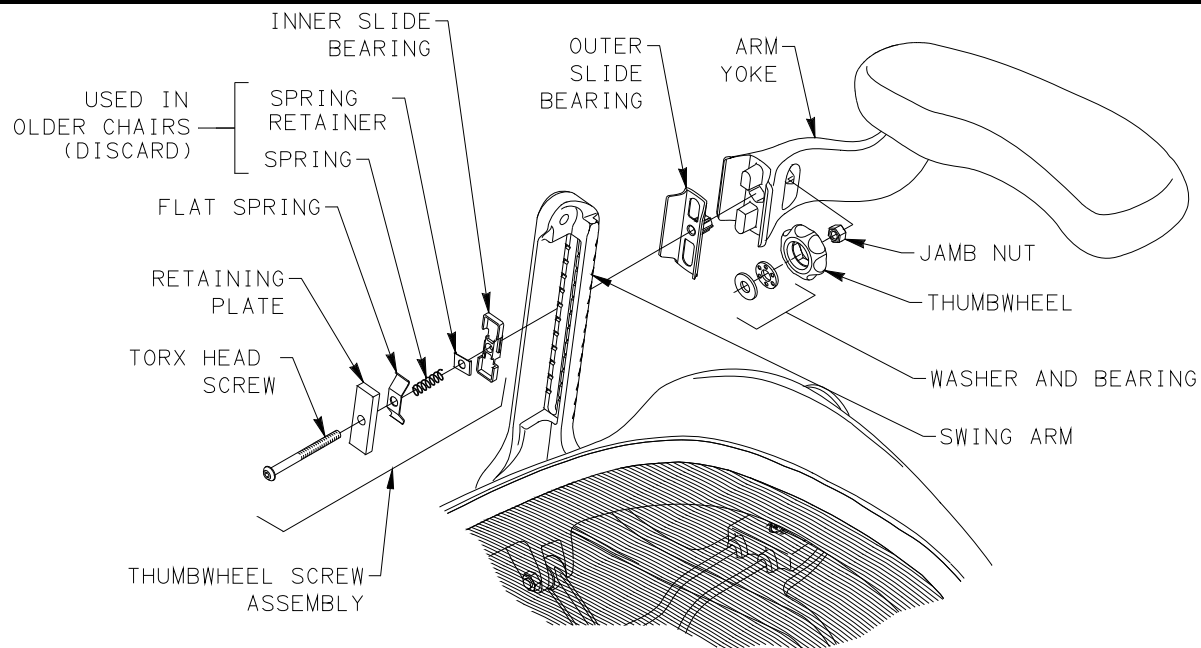

FIGURE 2
5. INSTALL REPLACEMENT WASHER, BEARING, THUMBWHEEL AND JAMB NUT INTO ARM YOKE. SECURE THUMBWHEEL IN PLACE. SEE FIGURES 2 AND 3.
6. INSTALL OUTER SLIDE BEARING TO END OF ARM YOKE AND POSITION ARM YOKE TO SWING ARM. KEEPING THUMBWHEEL TIGHT AGAINST INNER WALL OF THUMBWHEEL SLOT, THREAD TORX HEAD SCREW, WITH ASSEMBLED HARDWARE, AS SHOWN INTO THUMBWHEEL. TIGHTEN SCREW UNTIL ARM YOKE HOLDS POSITIONED HEIGHT. DO NOT OVER TIGHTEN SCREW. SEE FIGURES 2 AND 3.